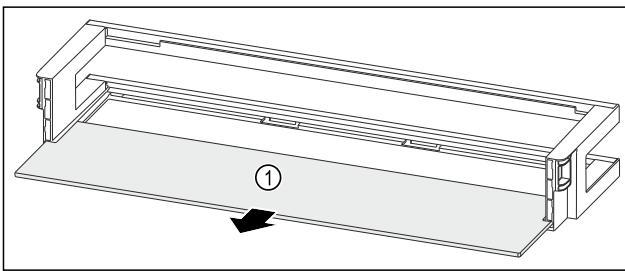

Fig. 115 Door racks with shelf
- ▶ Remove the shelf Fig. 115 (1).